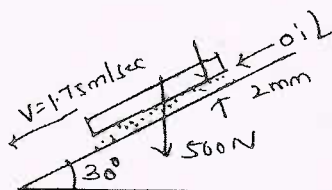

Fig.Q1(c)
- c. A rectangular plate  $0.50\text{m} \times 0.50\text{m}$  dimensions having a weight  $500\text{N}$  slides down an inclined plane [Fig.Q1(c)] making  $30^\circ$  angle with the horizontal at a velocity of  $1.75$  m/sec. If the  $2$  mm gap between the plate and inclined surface is filled with a lubricating oil, find its viscosity.